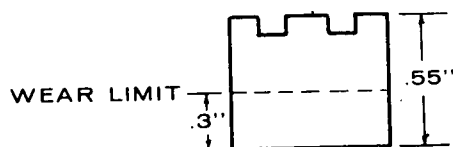

FIGURE 46. BRUSH WEAR LIMIT
8. **Inspection of Brushes.** Replace brushes when they are worn less than .3" as shown in Figure 46. See that all brushes move freely in their holders.